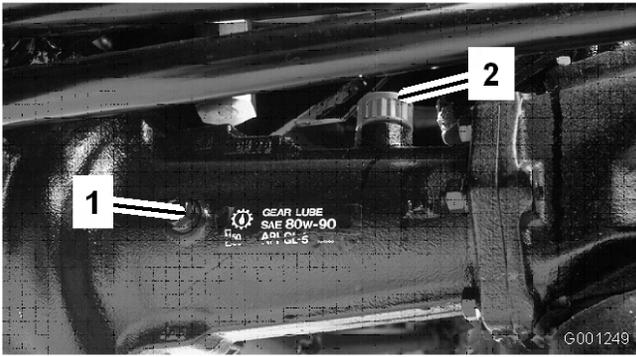
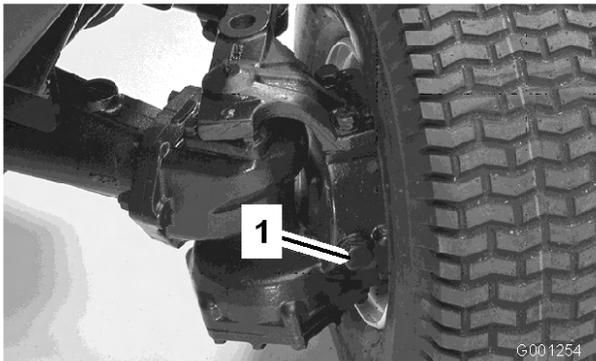

Figure 26
Figure 27
2. Remove check plugs from axle and make sure lubricant is up to bottom of each hole. If level is low, remove fill plugs and add enough lubricant to bring the level up to the bottom of the check plug holes (Figure 26 and Figure 27).